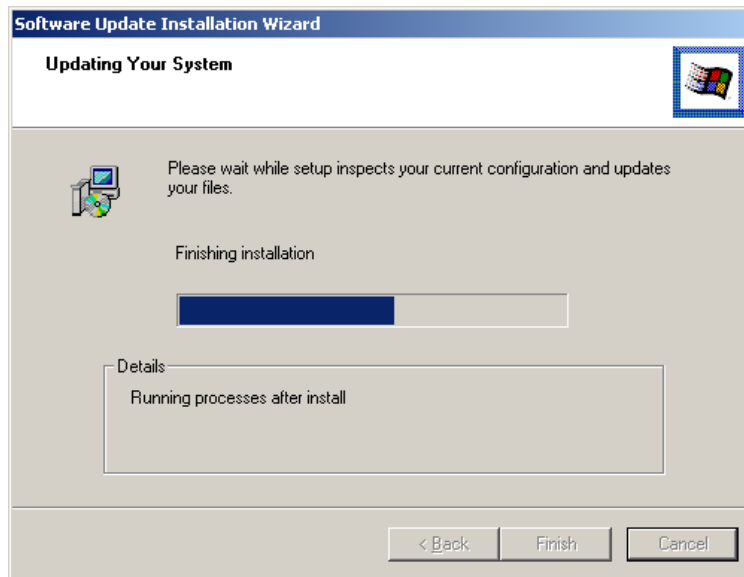

Figure 7-19: Installation Wizard Updates the System
Step 9: The Installation Wizard updates the system as shown in Figure 7-19.